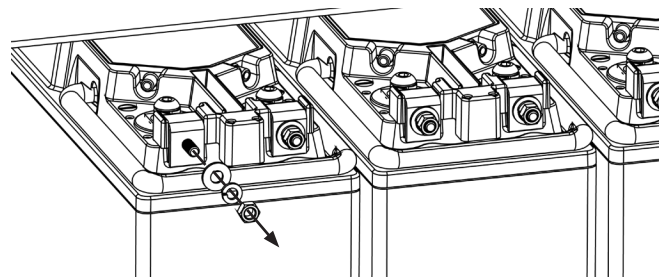

Fig. 2-5, Remove Battery Hardware
12. Remove all hardware from battery terminals and store in a bag or convenient place. (Fig. 2-5)